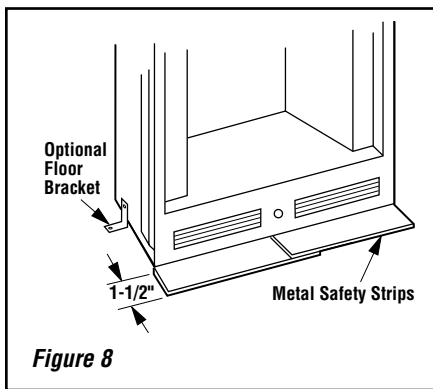

Figure 8
The safety strips should extend from front of the fireplace at least 1-1/2" and should extend to be at least flush with the sides. In the event a wooden support is used to elevate the fireplace above the floor, a "Z" type safety strip should be fabricated and used to protect the front surface of the wood support as well as the floor beneath the hearth extension (**Figures 8 and 9**). The safety strips should be tacked down to prevent possible movement.
*Note: The use of floor brackets are optional. They are included (unbent) inside the Combustion Air Kit package, located inside the firebox. Refer to **Figure 8** for suggested bracket placement.*